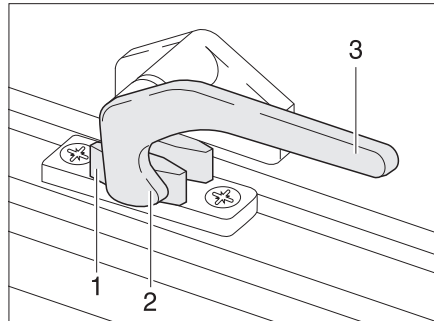
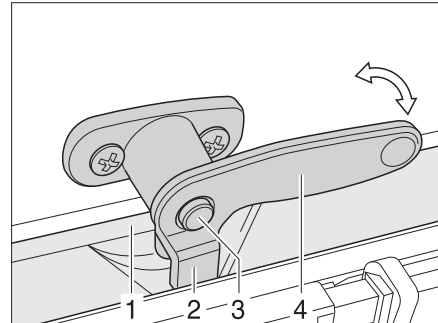

Fig. 70 Catch lever in "closed" position
Fig. 71 Catch lever with safety knob in "closed" position
- If it exists, press the safety knob (Fig. 71,3) down and hold it.
- Turn the catch lever (Fig. 70,3 or Fig. 71,4) a quarter turn towards the centre of the window.
- Turn the catch lever (Fig. 70,3 or Fig. 71,4) a quarter turn towards the centre of the window frame. The locking catch (Fig. 70,2 or Fig. 71,2) is located on the inside of the window catch (Fig. 70,1 or Fig. 71,1).
- "Firmly closed" (Fig. 70)